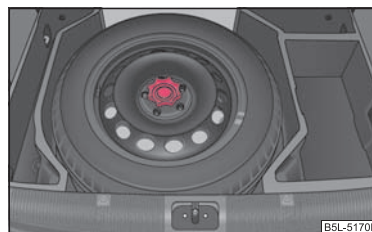

Fig. 175 Luggage compartment: Spare wheel
The spare wheel is stowed in the luggage compartment in the area below the variable loading floor\* and is secured with a special screw ⇒ fig. 175.
- Stow and attach the replaced wheel in the spare wheel well using a special screw ⇒ page 224, fig. 175.